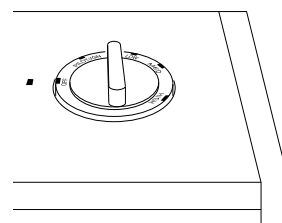

Figure 18 - Control Knob In The OFF Position
- Turn control knob clockwise to the OFF position (see Figure 18).
- Wait five (5) minutes to clear out any gas. Then smell for gas including near the floor. If you smell gas, **STOP!** Follow "B" in the safety information at left. If you don't smell gas, go to the next step.
- Turn control knob counterclockwise to the PILOT/IGN position. Press in control knob for five (5) seconds (see Figure 18).